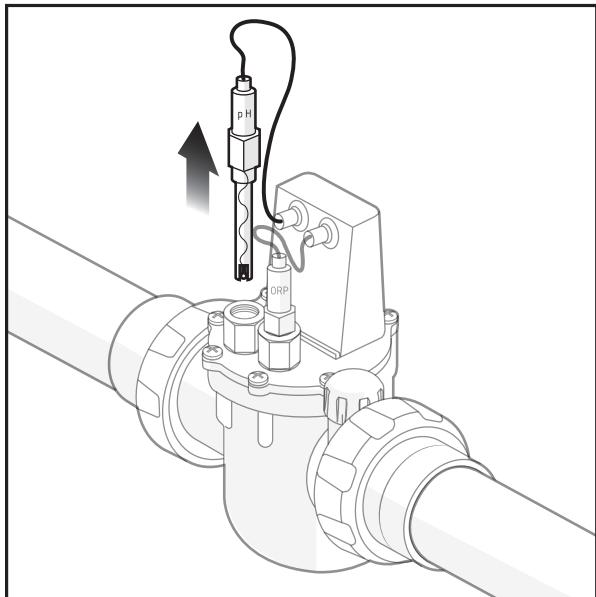

Figure 6. Remove pH sensor
5. Loosen the blue left compression fitting and carefully lift pH sensor from the plastic housing, DO NOT touch the glass tube, see Figure 6.